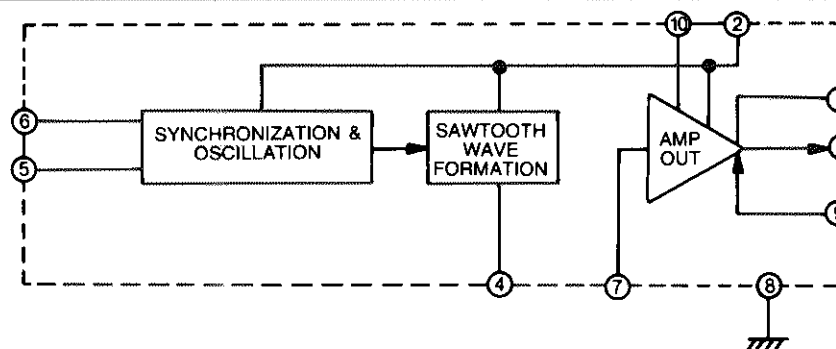

FIGURE 2-107. VERTICAL DEFLECTION CIRCUIT
2.8.3 Vertical Deflection Circuit (Figure 2-107)